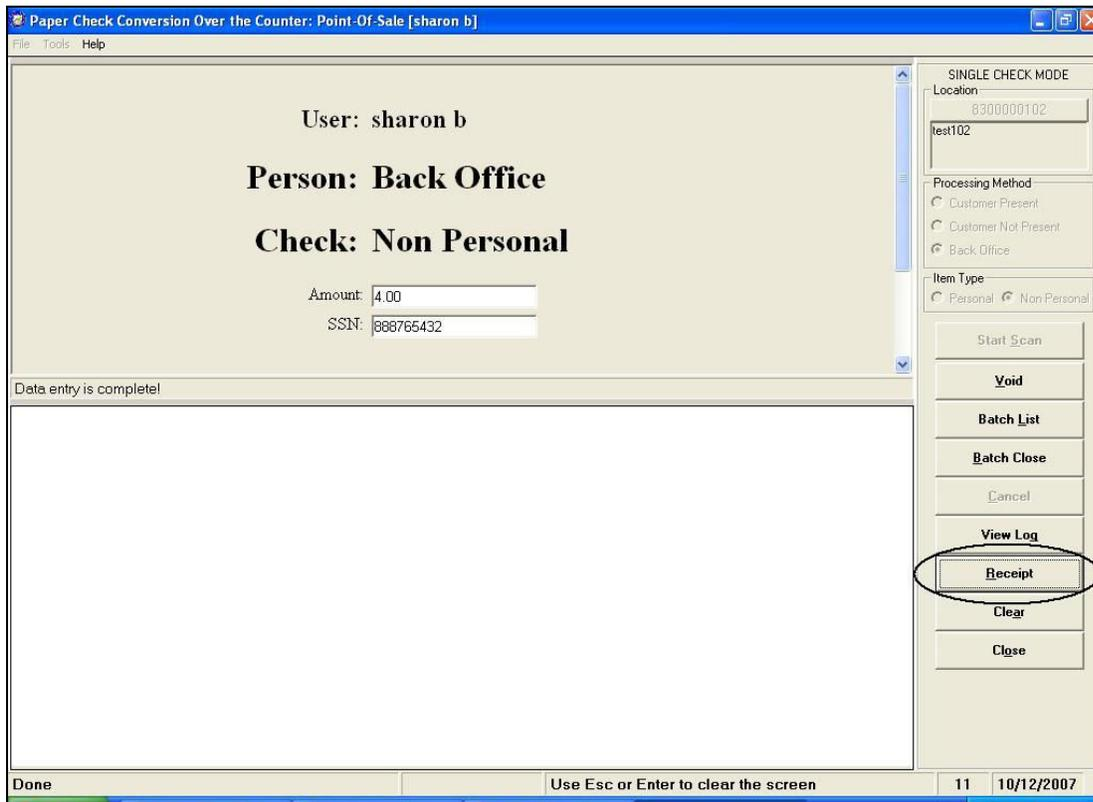

Figure 6.44
4. Click the **‘Receipt’** button (Figure 6.44)